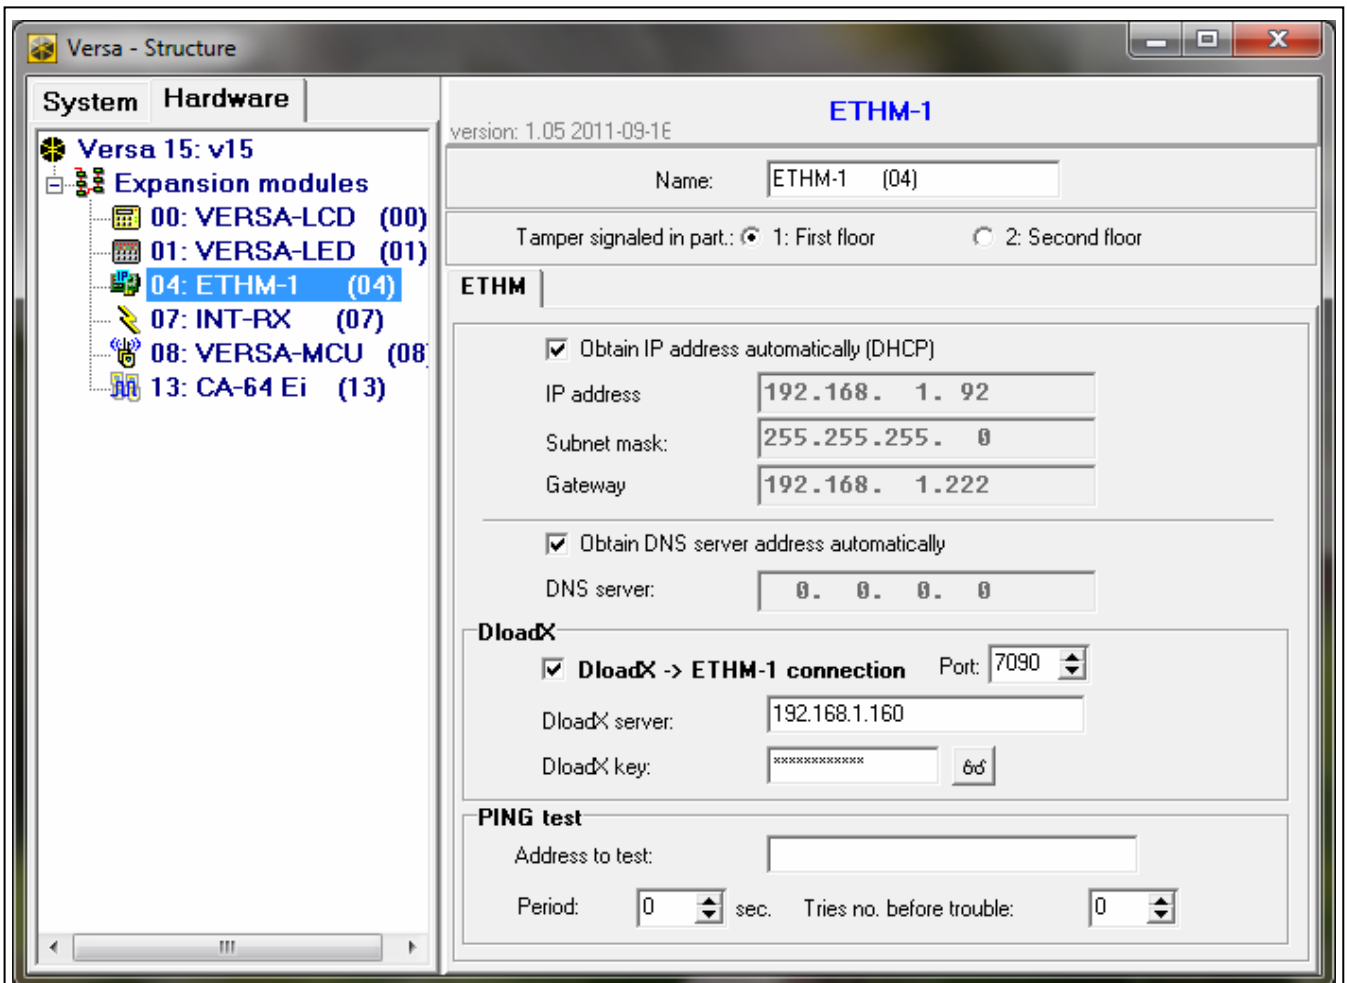

Fig. 5. DLOADX program: settings of the ETHM-1 module connected to VERSA control panel.
- DLOADX program: →"Versa – Structure" window →"Hardware" tab →[click on the module in the list of devices] (see Fig. 5).